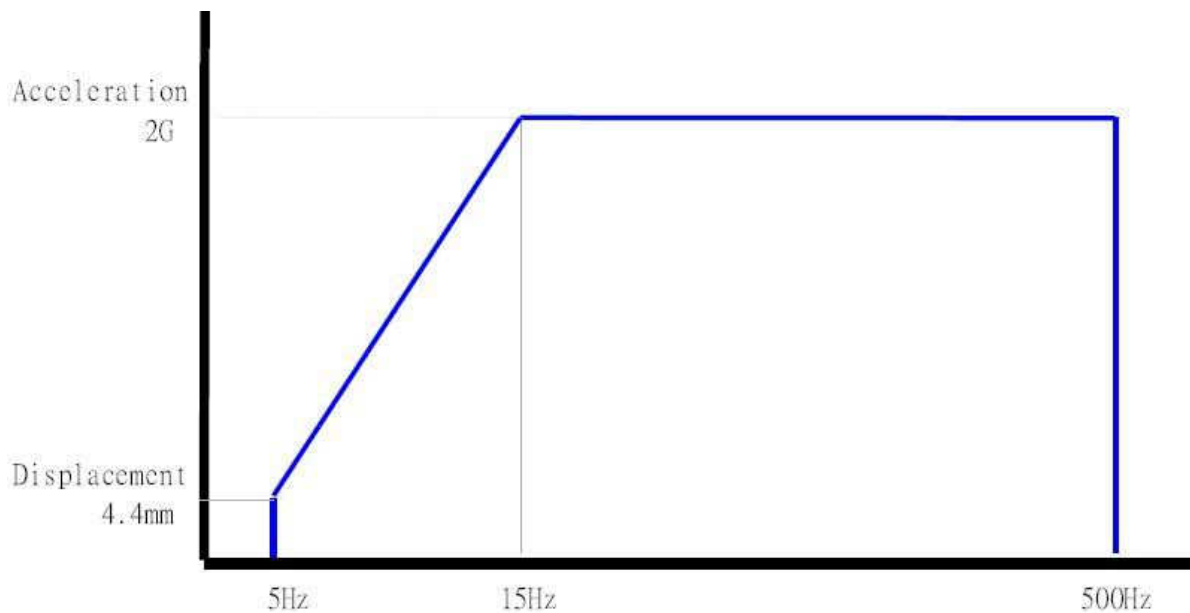

Figure 1.07.1.01 Non-operating Sine vibration test curve
9. Test Curve Figure 1.07.1.01